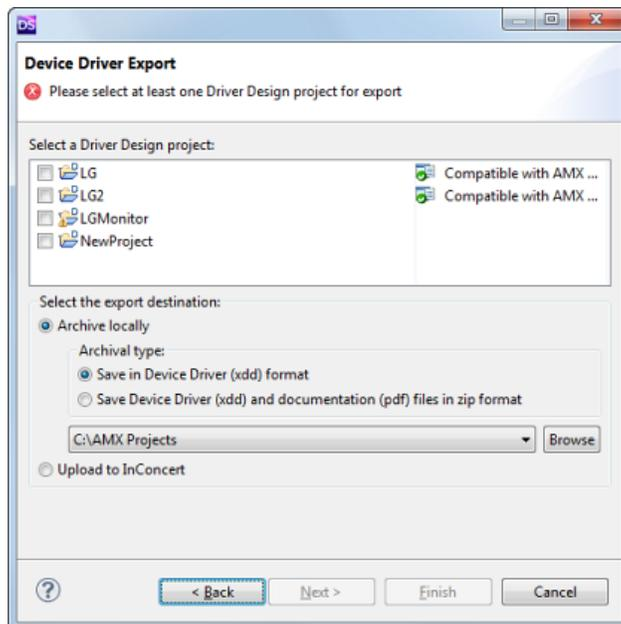

FIG. 86 Export Device Drivers dialog
3. Click **Next** to proceed to the *Export Device Drivers* dialog (FIG. 86):